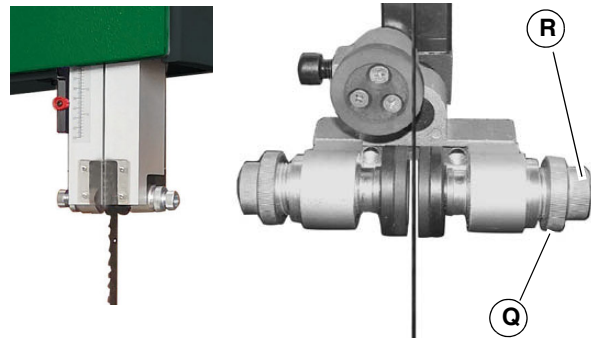

Fig. 22: Adjusting the upper saw blade guide
- Step 2: Loosen the clamping nut (Pos. Q, Fig. 22).
- Step 3: Turn the adjusting screw (Pos. R, Fig. 22) counterclockwise to push the guide back. This allows the saw band to be removed or the band guide play to be adjusted.